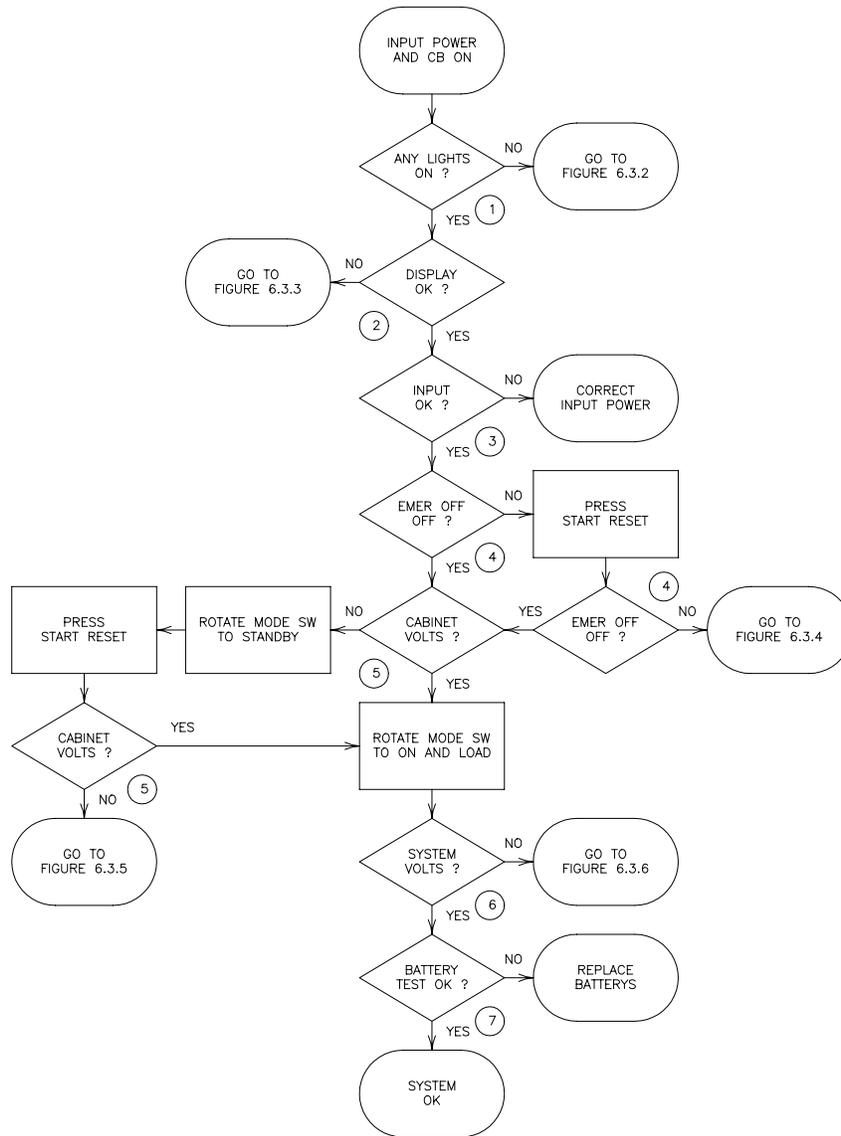

FIGURE 6.3.1 PERFORMANCE CHECK FLOW CHART
1. Performance Check - This procedure, figure 6.3.1, is used to verify that the system is operating properly.
The numbered comments below correspond to the circled numbers on figure 6.3.1 and provide detailed instructions relative to the referenced step.